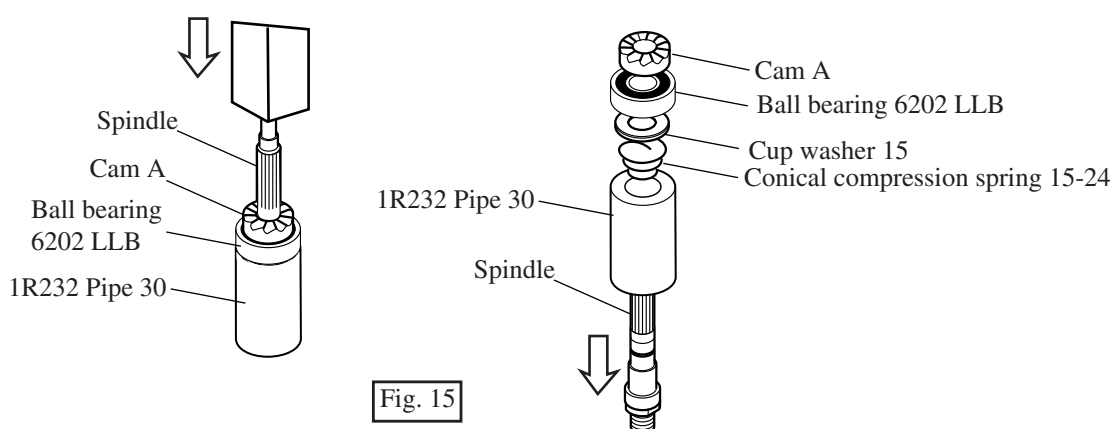

Fig. 15
2. Accept ball bearing 6202 LLB with 1R232 "pipe 30", and press spindle with arbor press. So, cam A, ball bearing 6202LLB, cup washer 15 and conical compression spring 15-24 can be separated from spindle as illustrated in Fig. 15.